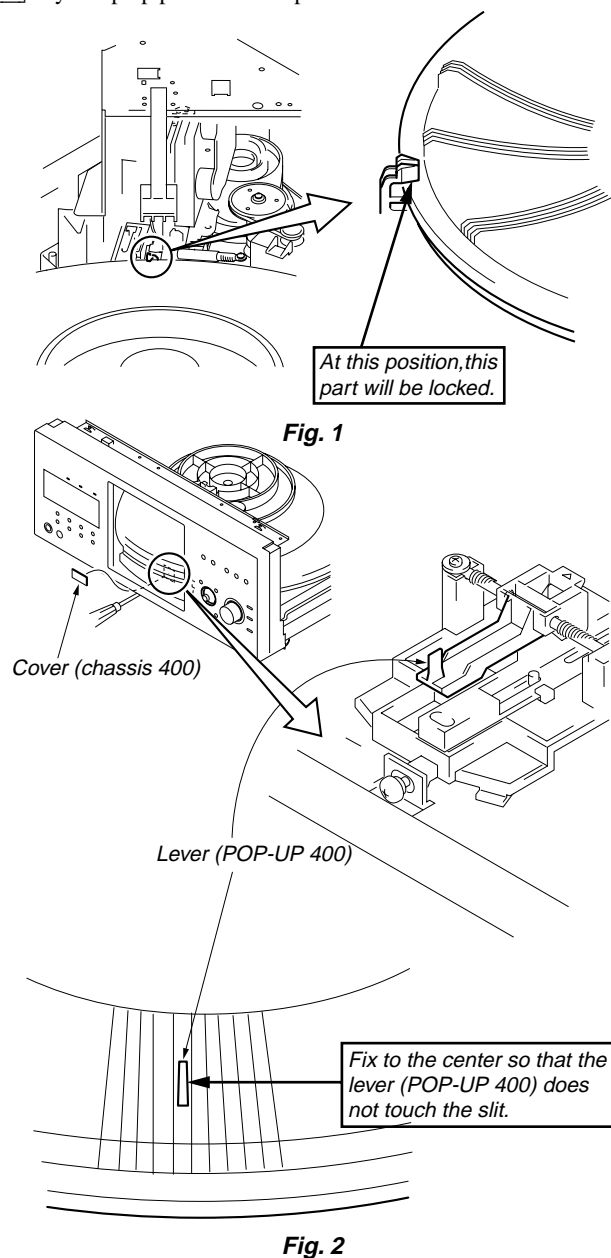

Fig. 2
8. Loosen the adjusting screw, move the screwdriver left and right until the lever (POP UP) does not touch the slit wall, and secure the screw. (Fig. 2)